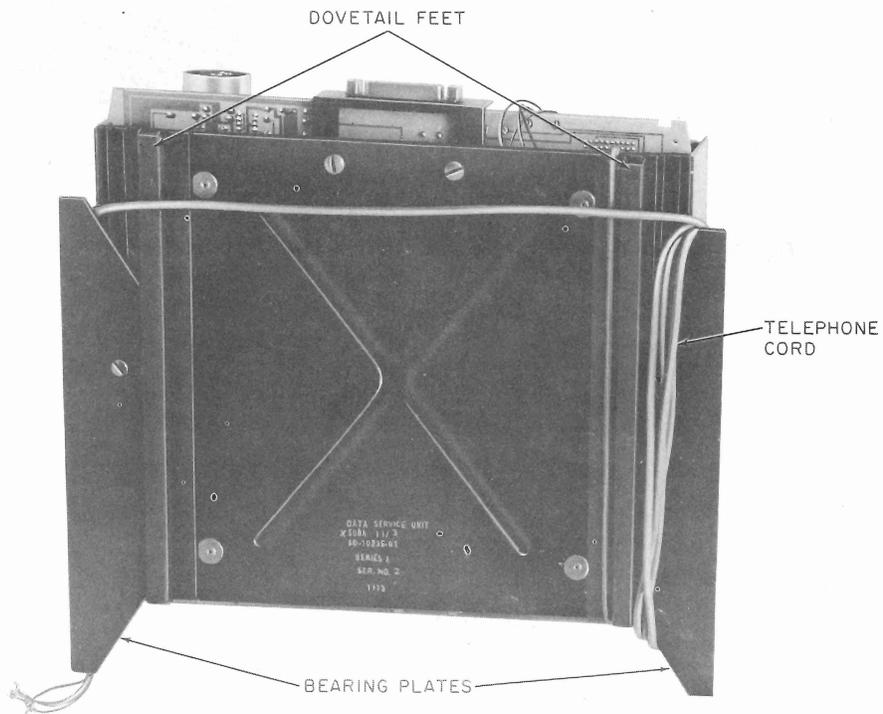

Fig. 10—500A-Type Data Service Unit—Under View Showing Bearing Plates
- (1) Remove front and rear faceplates per paragraph 2.04.
- (2) Remove switch and LED assembly per paragraph 3.07(5).
- (3) Remove outer cover from DSU. (The front faceplate, outer cover, and power cord are not used in a multiple arrangement.)
- (4) Position switch and LED assembly to rear (connector side) of DSU.
- (5) Slide the two bearing plates into the slot on the dovetail feet of the DSU and secure with mounting screws (Fig. 10). A bracket is supplied to fill the space between the bearing
(6) Dress the telephone line cord around the bearing plates as shown in Fig. 10.